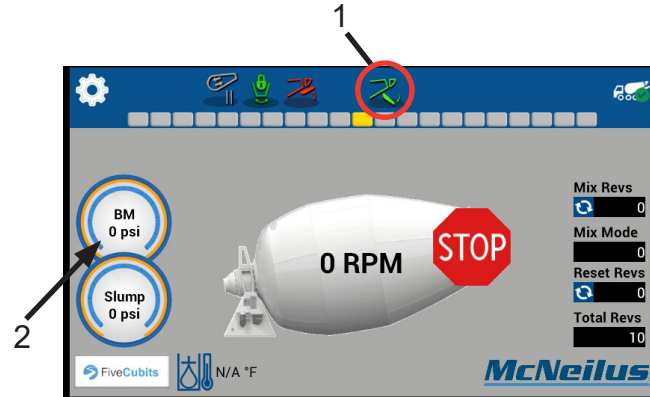

Figure 53
- a. Center and lower chute as required. Make sure the chute “lowered and centered” icon appears on the top row of the monitor display (Figure 53, Item 1) before commanding the Bridgemaster axle up or down.
- b. Use the PRV2 adjusting knob on the Bridgemaster to dial in the proper pressure for the load being transported. The BM PSI gauge on the screen (Figure 53, Item 2) should change according to the pressure dialed in on the PRV2 adjusting knob.